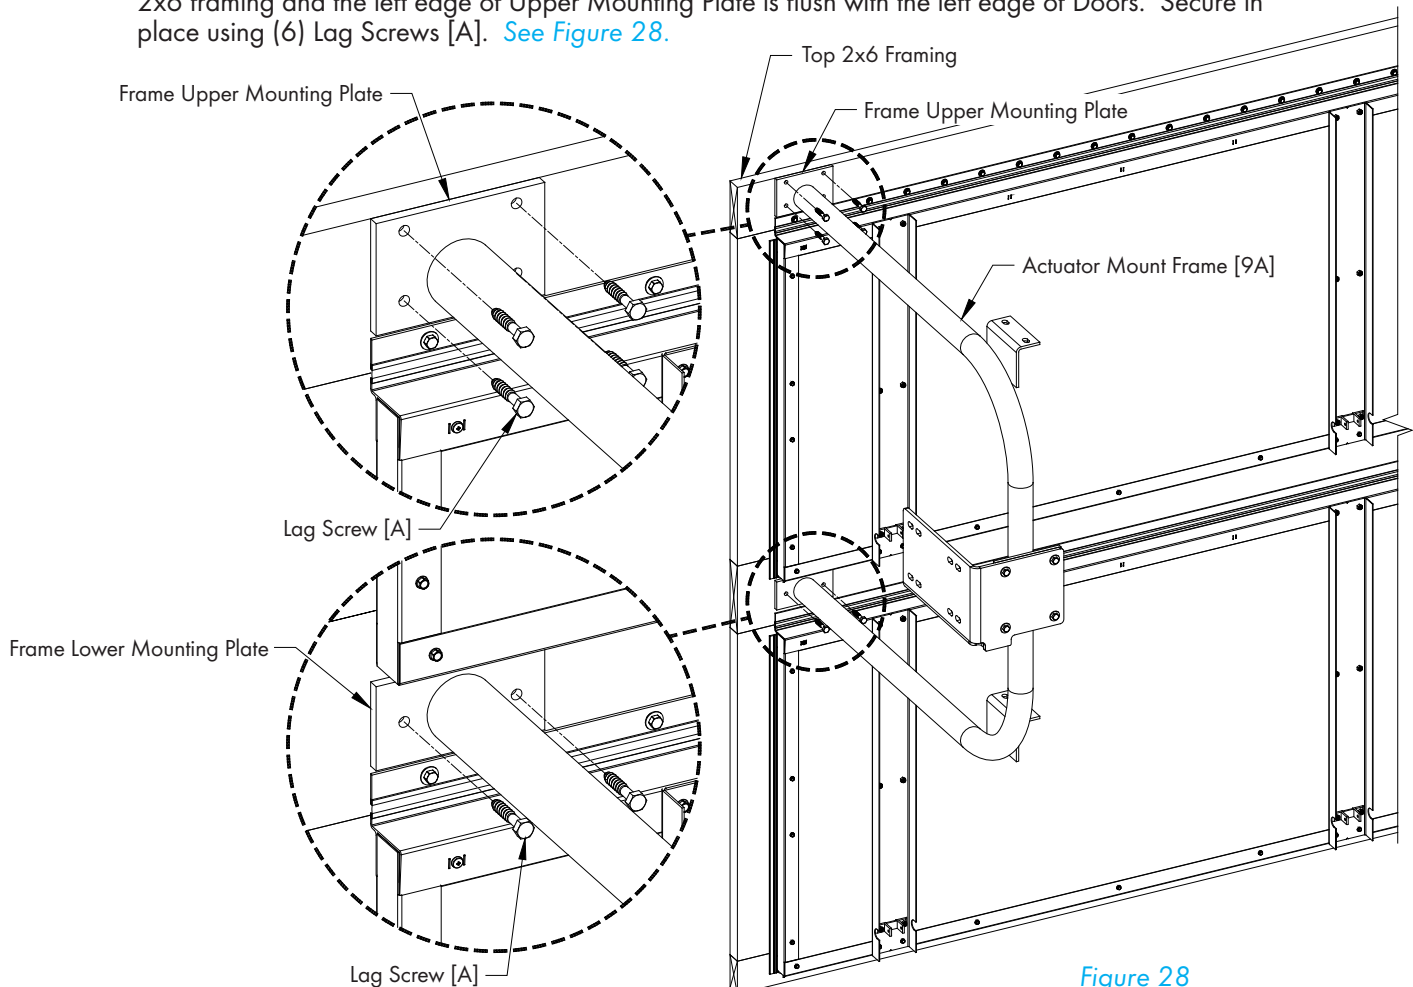

Figure 28
Attach Actuator Mount Frame [9A] so that the top of Upper Mounting Plate is flush with the top of the 2x6 framing and the left edge of Upper Mounting Plate is flush with the left edge of Doors. Secure in place using (6) Lag Screws [A]. See Figure 28.